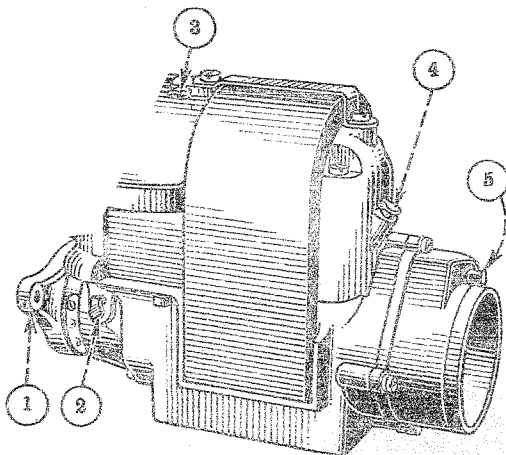
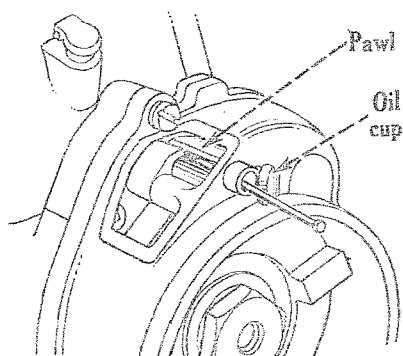

Figure 79A. IHC Model F-6 Magneto
Figure 79F. Method of Disengaging The Impulse Coupling
(See Figs. 79A, 79B and 79C)
(4) AFTER EVERY 480 HOURS OF OPERATION: Fill the distributor bearing oil cup (3) with a light electric motor oil (viscosity - SAE-10).
(5) AFTER EVERY 960 HOURS OF OPERATION: Apply several drops of a light electric motor oil (viscosity - SAE-10) to rotor bearings (2) and (4), Fig. 79A.
(1) Remove the breaker housing cover (1), Fig. 79A. Disengage the coupling by inserting a rod or wire in the coupling oiler, and lifting the pawl, Fig. 79F. Crank the engine until the rubbing block is on the high point of the cam.
(4) Lock the impulse coupling out of engagement by inserting a rod or wire into the oiler hole and lifting the pawl, Fig. 79F.
(b) Disengage the magneto impulse by inserting a rod or wire into the coupling oiler and lifting the pawl, Fig. 79F.